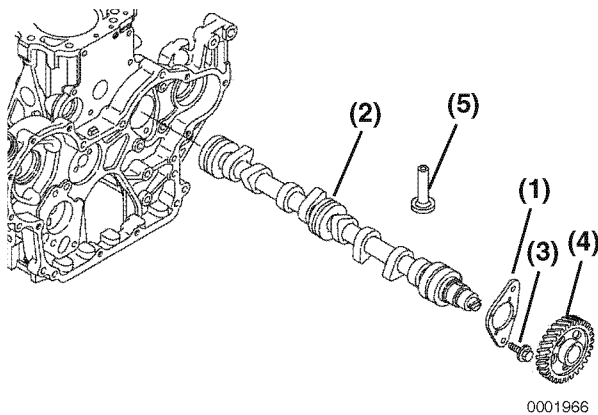

Figure 6-97
- Remove the two bolts (**Figure 6-97, (3)**) retaining the camshaft thrust plate (**Figure 6-97, (1)**).
- Rotate the engine in the engine stand so that gravity causes the tappets (**Figure 6-97, (5)**) to drop away from the camshaft lobes.
- Slowly pull the camshaft (**Figure 6-97, (2)**) assembly out of the engine being careful not to damage the front camshaft bushing.
- Remove the camshaft drive gear (**Figure 6-97, (4)**) only if the gear or camshaft require replacement. Use a knife-edge puller and a press to remove the gear. The gear is a shrink-fit and will need to be heated to 356° - 392°F (180° - 200°C) to remove.